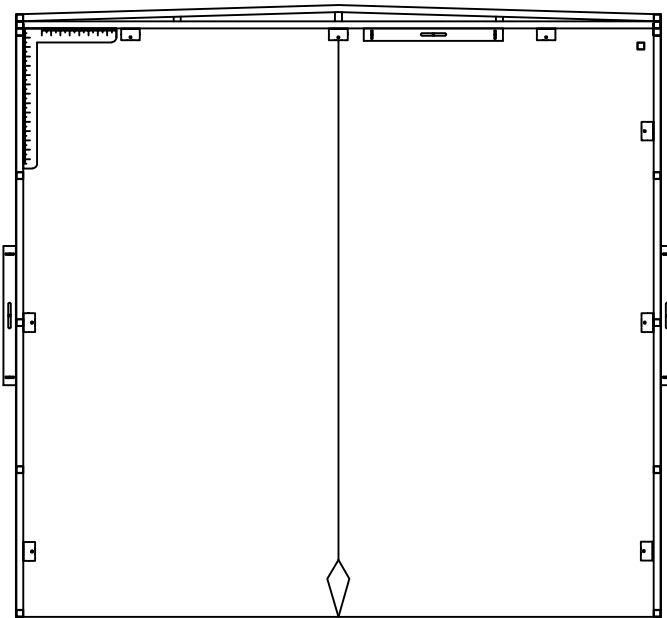

FIG. 15
- a. **Make sure entire shelter is plumb, level, and square (Figure 15).**